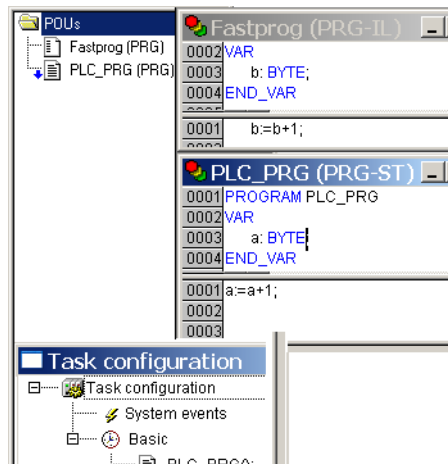

Figure 74: PLC and Task configuration
- Create the POU "PLC\_PRG" and "Fastprog" as shown in Figure 74.